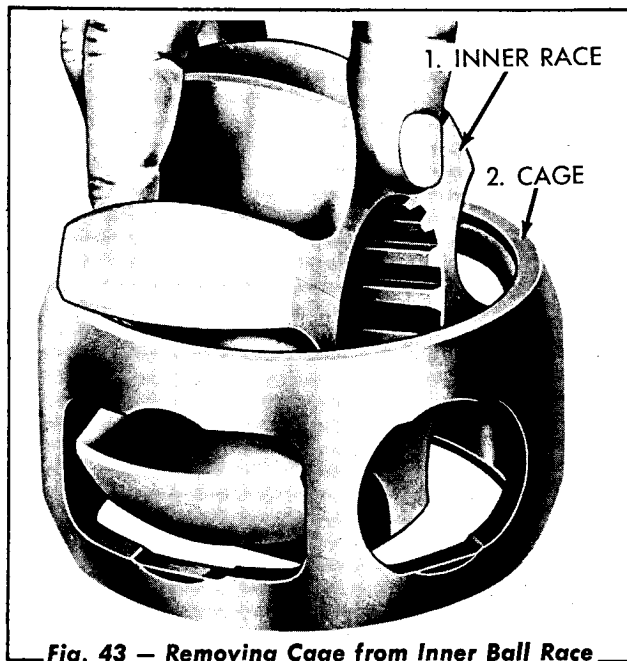

Fig. 43 - Removing Cage from Inner Ball Race
- b. Insert the drive shaft universal bell into a bronze jawed vise. Install the race and the cage into the universal bell at right angles and tilt it into position while, at the same time, aligning the bell teeth with the elongated holes in the bearing cage (Fig. 43).